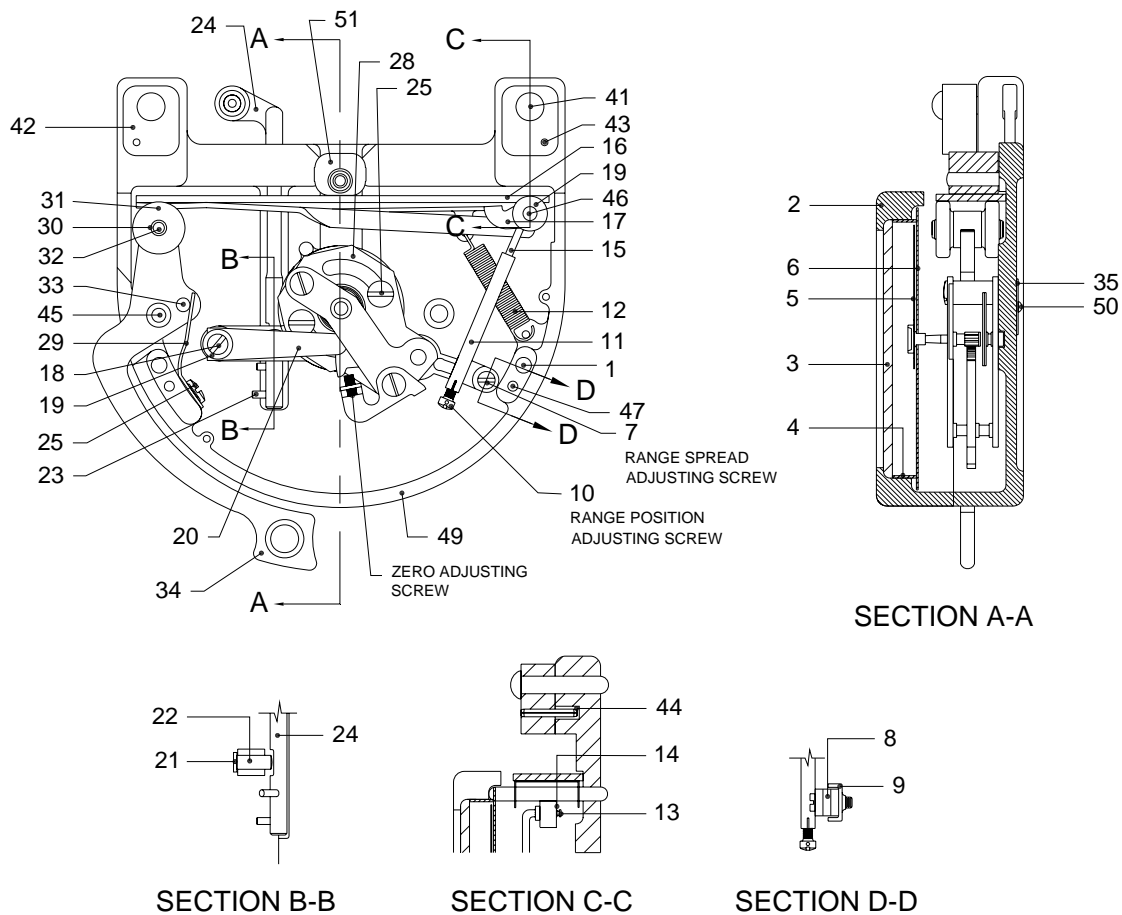

Figure 1-Detailed Description
springs (44) set in recesses in the case (49), causing the sectors to bear against sector pivot pins (41) which are a press fit into case (49). (See Figure 1)
- 2-3. **TRIGGER-** In order to pass a tight cable between the two sectors (42 and 43) and over the riser (51), the riser is retracted by lowering one end of which is attached to the main spring pivot pin (46). The free end of the mainspring leaf assembly rests on two trigger rollers (31), which are attached to lever trigger assembly (34 See Figure 7) of the trigger assembly (30 thru 34). The lever assembly or trigger lever project from the side of the instrument case. Opening the lever assembly or trigger lever lowers one end of the mainspring leaf assembly (16, See Figure 1) and the riser (51). Closing the lever assembly or trigger lever raises the mainspring leaf assembly along with the riser, and therefore lever raises the mainspring leaf assembly along with the riser, and therefore creates the offset in the cable. An angled flat trigger spring (29) is provided to give an over center snap action to the lever assembly or trigger lever. The drawing of the T5-2000 Series Tensiometer on the title page shows the standard lever assembly used only on this series. The T5-8000 series utilizing a mitten grip is also depicted on the title page.
- 2-4. **MAINSRING-** The reaction of the cable offset bows the mainspring leaf assembly (16). An arm riveted to the fixed end of the main spring leaf assembly becomes tangent to the bowed mainspring leaf assembly, producing a substantial movement to the opposite free end of the mainspring leaf assembly.
- 2-5. **MOVEMENT AND LINKAGE-** The movement referred to in the preceding paragraph is transmitted by the linkage rod (15) and sleeve assembly (11) to the movement assembly (28). The linkage rod and sleeve assembly move as a unit, except when the pointer (5) is locked in position. The movement assembly is a self-contained brass unit comprised of a toothed segment meshing with a pinion gear on the pointed arbor. The outer end of the segment meshing with a pinion gear on the pointed arbor. The outer end of the segment consists of a slotted arm, to which the linkage rod (15) is attached. The purpose of the slot is to provide a means of adjusting the range of the Tensiometer. A hairspring is provided in the movement to eliminate backlash in the gears and to return the pointer to zero. An adjustable segment stop-screw (7) is provided to limit the travel of the segment, thus providing a more positive zero adjustment.
- 2-6. **BRAKE-** The brake lever rod (24) serves to lock the Tensiometer pointer in the event that dial (6) cannot be seen when taking a reading. The lock consists of two flat bronze springs (20 and 21). The longer brake spring (20) is set to normally bear against the segment of the movement, to hold it by friction when the brake lever is in the locked position. The shorter brake plunger spring (21) is to provide a snap action to the brake lever rod. Rotating the brake lever rod (24) lifts the two springs by means of brake plunger (22), which normally rides on a recessed flat in the brake lever rod.
- 2-7. **NON-OPERATING PARTS-** The foregoing covers the operating parts of the Tensiometer. The remaining parts are the case (49) on which all the operating parts and the dial (6) are mounted, and the cover (2) into which the glass (3) and bezel (4) are fitted.
KEY TO FIGURE 1